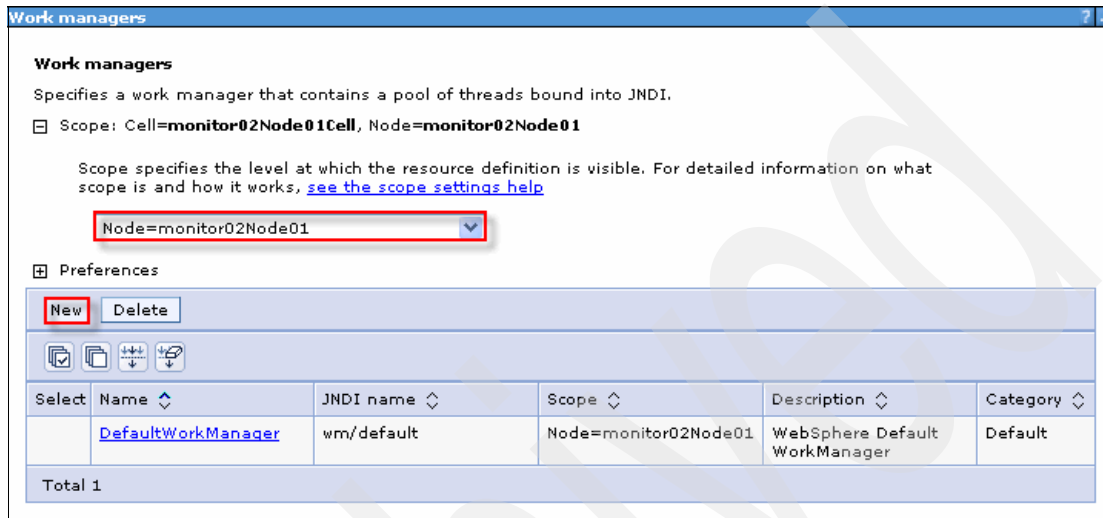

Figure 7-7 Work managers panel
4. In the Work managers panel (Figure 7-7):